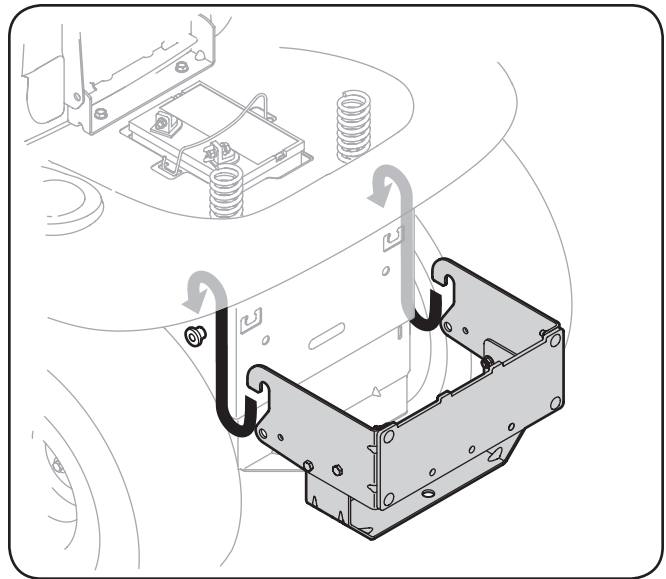

Figure 4-7
1. Place the hooked ends of the mounting assembly over the shoulder bolts, as in Fig. 4-7, on the tractor and line up the hitch support bracket center hole with the hole on the tractor's hitch.